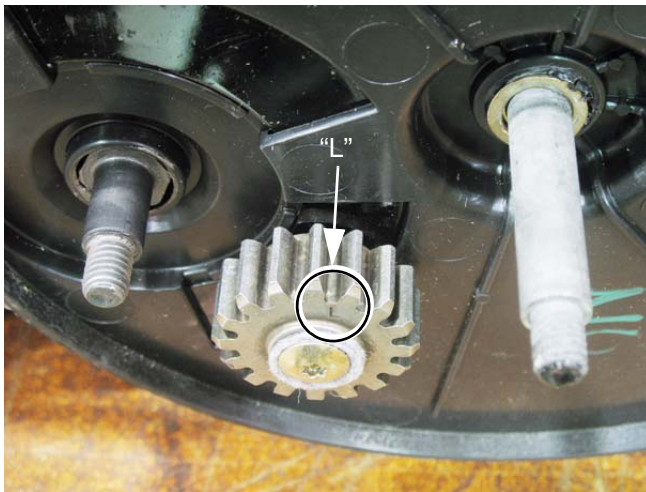

Figure 6.23
6. The spur gears are directional. See Figure 6.23.